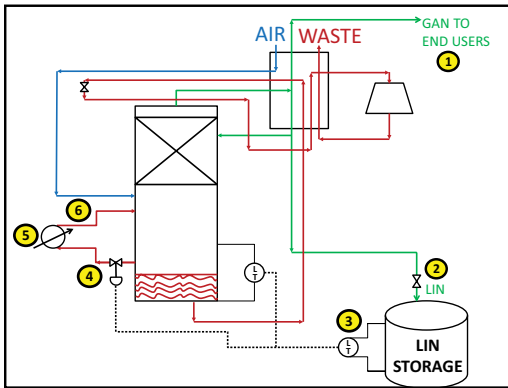

Figure 1: Waste Expansion Cycle
Waste expansion nitrogen plants are especially effective in remote industrial areas where it is uneconomical to deliver LIN by tanker truck and where LIN for back-up is required (see Figure 1). While GAN is being consumed in the facility (1), the small amount of LIN is stored for a multitude of uses (2) including back-up when the plant is off-line, to supplement GAN flow when